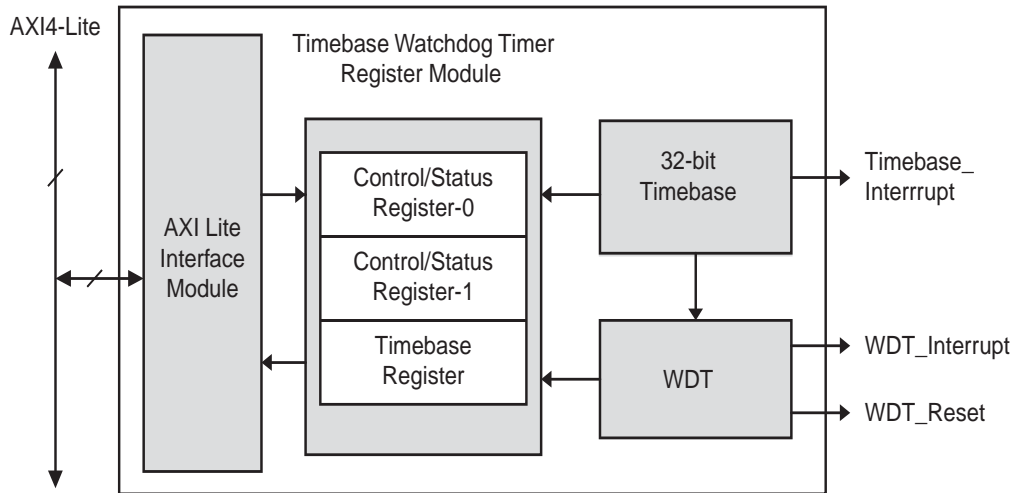

Figure 1: Block Diagram of AXI Timebase Watchdog Timer
The top level block diagram for the AXI Timebase Watchdog Timer is shown in Figure 1.
**Timebase Watchdog Timer Register Module:** The Timebase Watchdog Timer Register Module includes all memory-mapped registers (as shown in Figure 1). It interfaces to the IPIC. It consists of an 32-bit control/status register-0, an 32-bit control/status register-1 and an 32-bit timebase register (TBR).